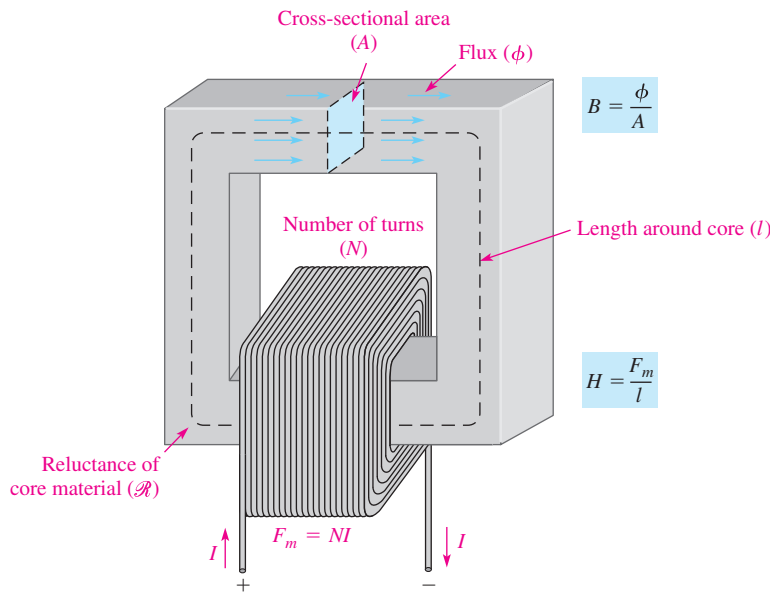

FIGURE 10-27
Since $\phi = F_m/\mathcal{R}$, as F_m increases, the flux increases. Also, the magnetic field intensity (H) increases. Recall that the flux density (B) is the flux per unit cross-sectional area ($B = \phi/A$), so B is also proportional to H . The curve showing how these two quantities (B and H) are related is called the B - H curve or the hysteresis curve. The parameters that influence both B and H are illustrated in Figure 10-27.